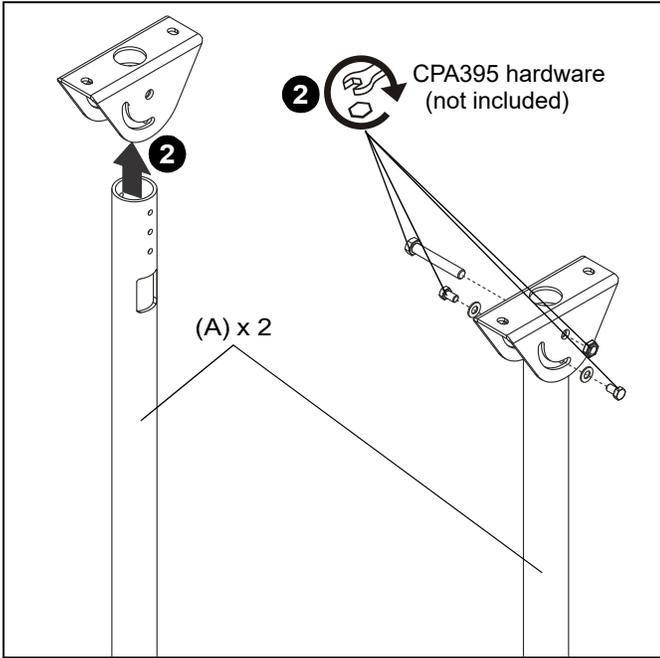

Figure 1
1. Loosely attach two CPA395 ceiling plates (not included) to ceiling, following CPA395 installation instructions. Plates must be installed 25" apart for the OMNDC46 or 29.2" for the OMNDC55. Only install screws 3/4 of the way to allow for some adjustment after the display has been installed to columns. (See Figure 1)
2. Use CPA395 hardware (not included) to attach ceiling posts (A) to CPA395 plates. (See Figure 1)